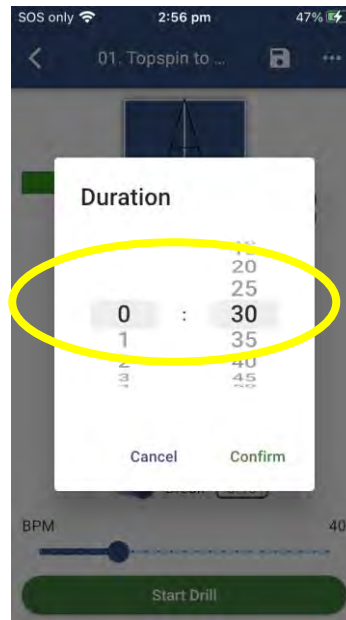

Figure 3-49
- Touch the Duration time box to adjust the length of time you would like the Drill to run. (Figure 3-49)